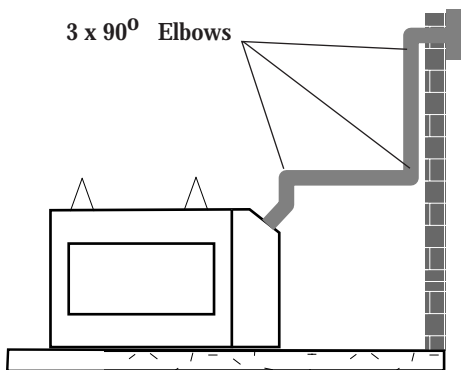

Figure 18 - Maximum Three (3) 90 Elbows Per Installation
- The maximum number of 90° elbows per side wall installation is three (3), the maximum horizontal run is 20" (*Figures 18, 19*)